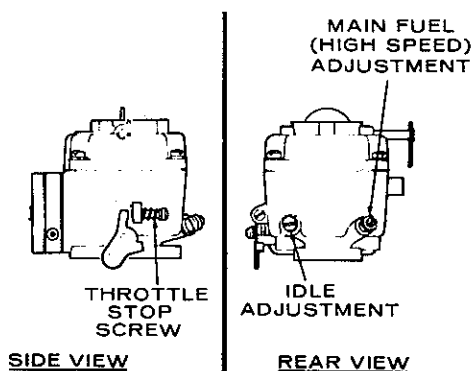
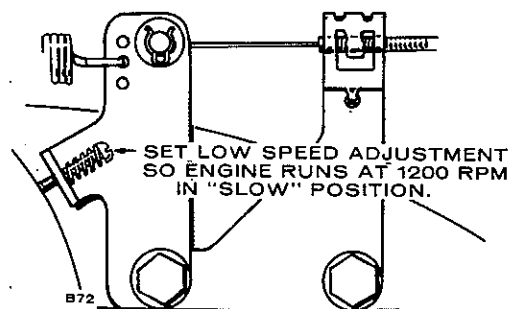

FIGURE 7-21. MAIN FUEL AND IDLE VALVE ADJUSTMENT
FIGURE 7-22. LOW SPEED ADJUSTMENT
The carburetor has a main fuel valve adjusting screw and an idle valve adjusting screw, Figure 7-21. A low speed adjustment screw is shown in Figure 7-22.
2. Hold engine at idle position and set low speed adjustment screw (Figure 7-22) until a fast idle is obtained (1200 rpm).